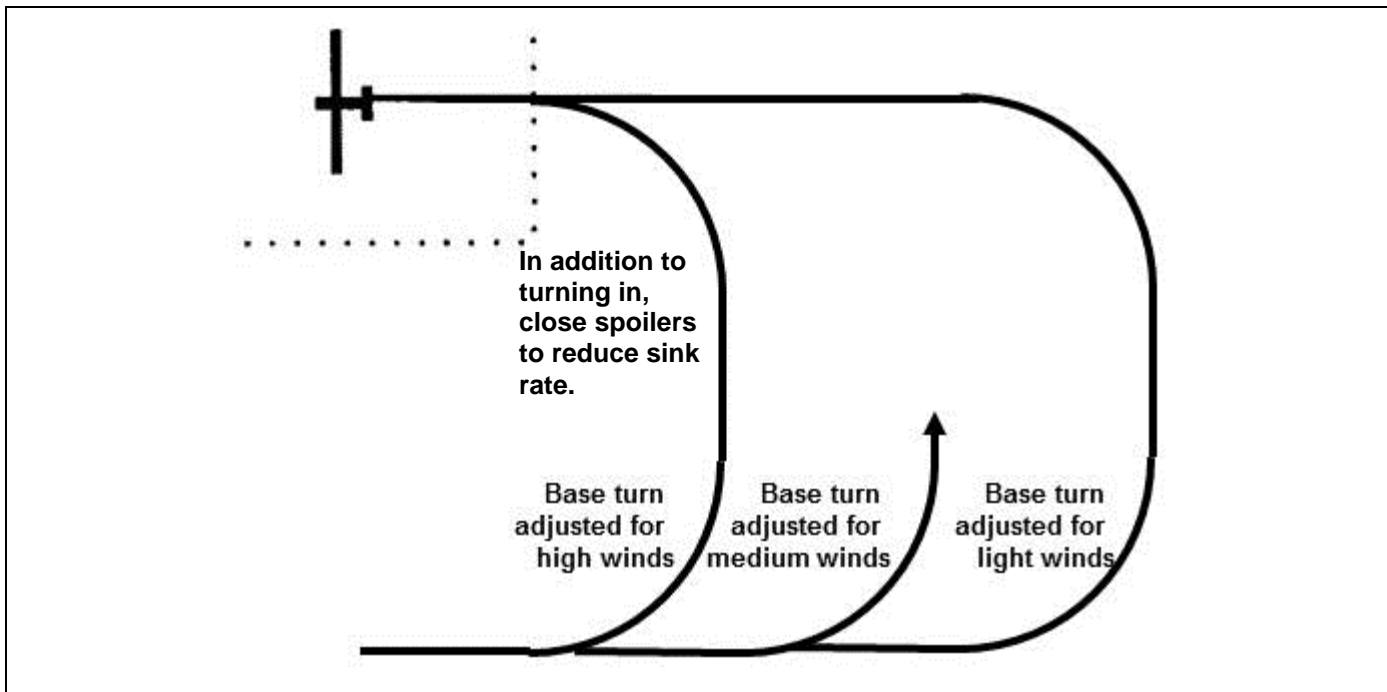

Figure 4-3 Base Leg Modifications
- c. If there is a strong headwind, especially over 15 mph, base leg should be started earlier than on a 10 mph than on a more calm day, and spoiler usage on base should be limited. Some glider pilots turn when the glider passes the approach end of the landing strip. Some glider pilots turn as they pass their intended landing point. See Figure 4-3. Again, whatever technique you use, turning early will prevent the glider from drifting too far downwind.